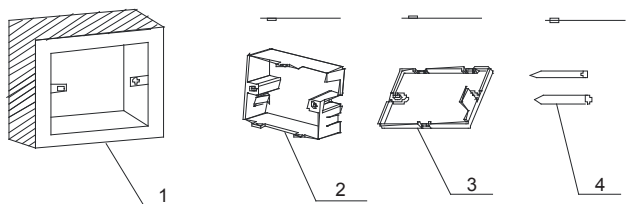

Fig. 3 Installation Sketch of Detection Control Board
**Fig.3** is about installation process of detection control board. The following items should be attended.